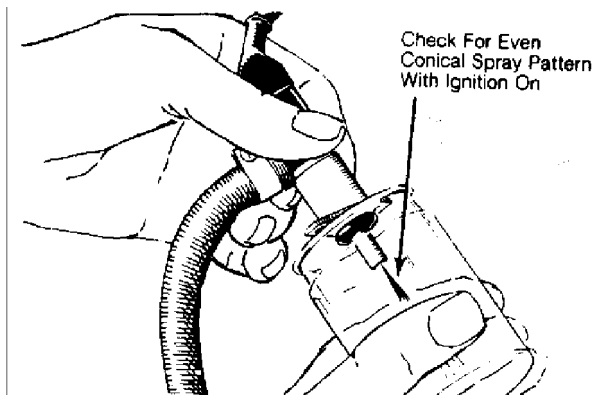

Fig. 10: Testing Cold Start Injector Valve
3) Remove cold start valve from manifold but leave fuel line connected. Place valve in container. See Fig. 10. Connect jumper wire from one terminal to ground, and from other terminal of cold start valve to switch. Other side of switch should be connected to source of battery voltage. Operate fuel pump.